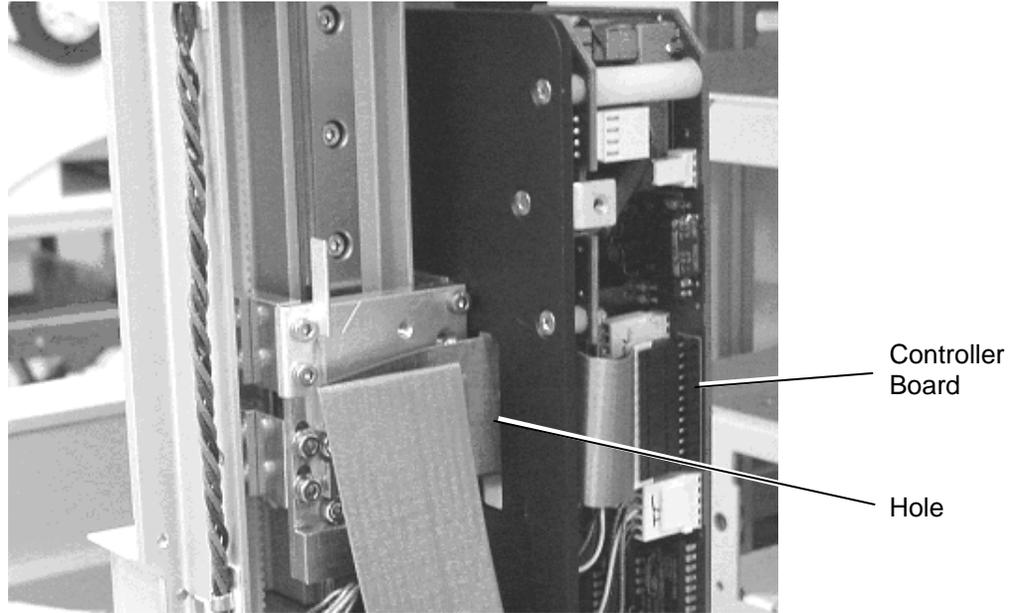

Figure 7-10 Unplugging the Cable from the Controller Board
- 6 Remove the Cable from the Pipette Controller Board (Figure 7-10).